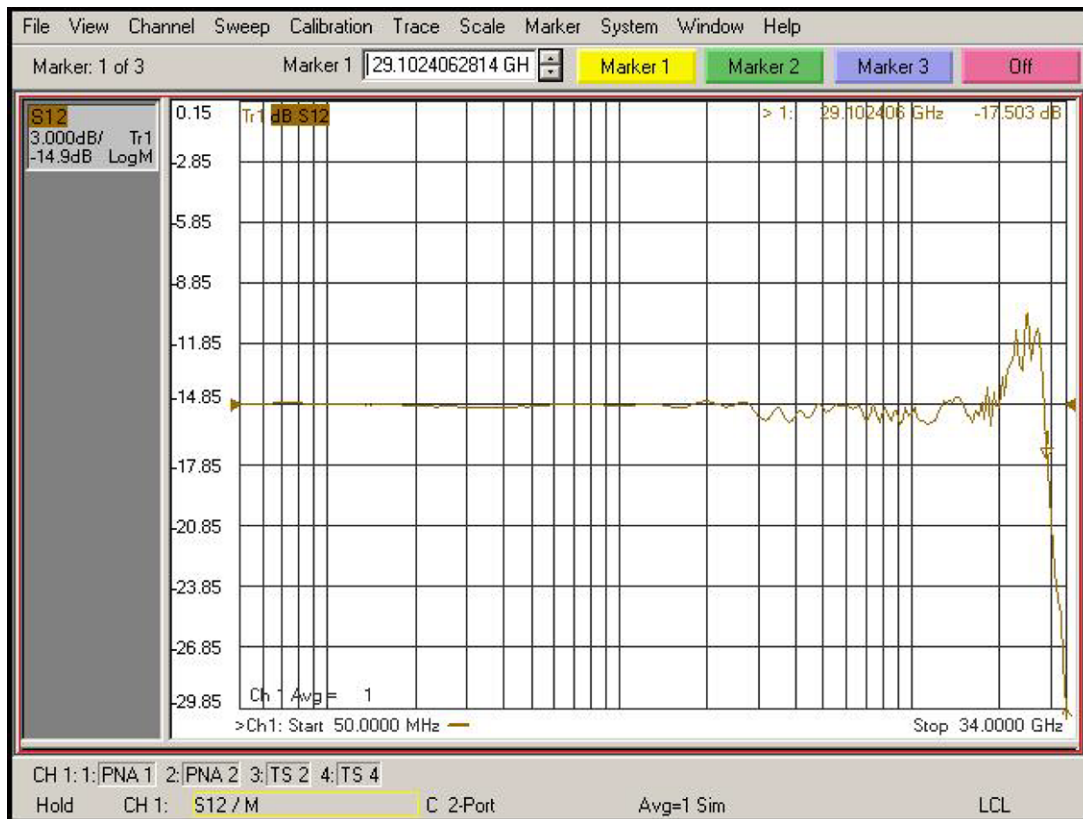

Figure 7 De-embedded “Vout/Vin” response of the probe
- b. Again, adjust the “Reference Level” in the scale menu so the 50MHz point is at center screen. The display should look like Figure 7.